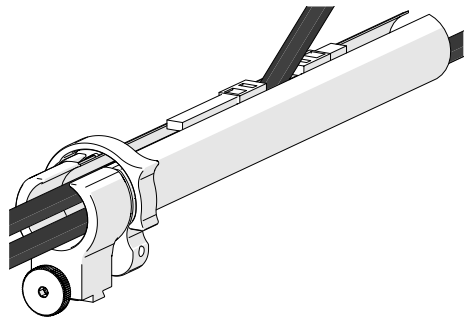

Fig. 57 - Flexible routing
4. When necessary, the two zippers may be opened to allow any cables to be routed out of the tube (Fig. 57).